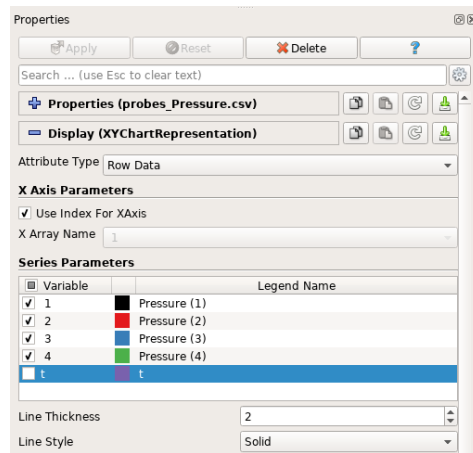

Figure III.45: Specifying the line plot's legend.
Click on the **Line Chart View** button and prepare the line plots, starting with the pressure data. Make the data visible for that file by clicking on the eye symbol  next to the file name in the **Pipeline Browser**. Go to the **Display** tab and set **Attribute Type** to **Row Data**. In the **Series Parameters** category, unselect the **time** variable. The variables **1**, **2**, **3**, and **4**, representing the pressure at each iteration at the four monitoring points you specified should be selected and the graphs of their evolution as a function of the number of iterations (time steps) should now be displayed in the view window. For clarity, change the legend for each variable. In the **Series Parameters** category, left-click on the row for variable **1** to select it. Double left-click on the name of that variable, in the **Legend Name** column to edit it. Change the name of each variable to **Pressure (1)**, **Pressure (2)**, **Pressure (3)** and **Pressure (4)** (Figure III.45 and III.46).